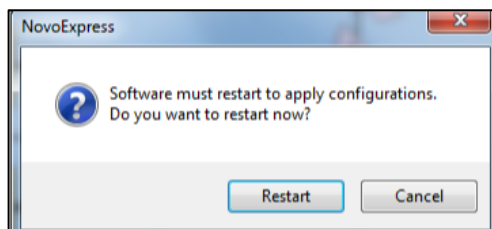

Figure 35. Dialog Window for Restarting the NovoExpress
- Click **Restart** in the next window (Figure 35) to restart the software to apply the new optical configuration setting.